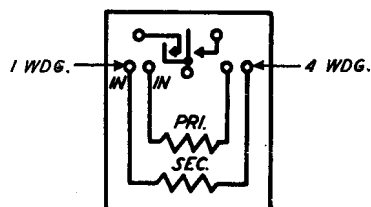

FIG. 3 - WINDING TERMINAL ARRANGEMENT AS VIEWED FROM THE REAR (TERMINAL SIDE) - B, G AND J TYPE RELAYS
2.04 As viewed from the front of the relay, contact springs are numbered from left to right. Armatures are not designated from the front. The winding terminals are located in the middle row of terminals facing the rear and are numbered from left to right as shown in Fig. 3. Where it is required to make contact with the winding terminals the designation WDG is specified after the terminal number.